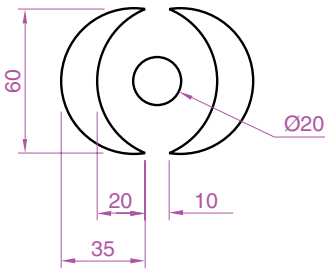

Fig. 5.19 Second example – **Array** – drawing to be arrayed
1. Construct the drawing in Fig. 5.19.